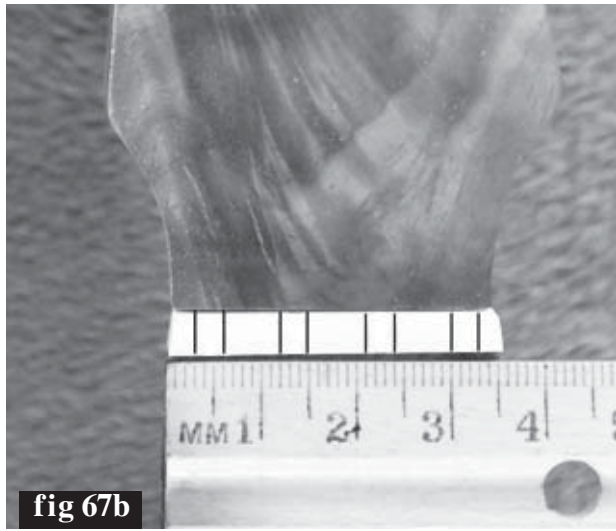
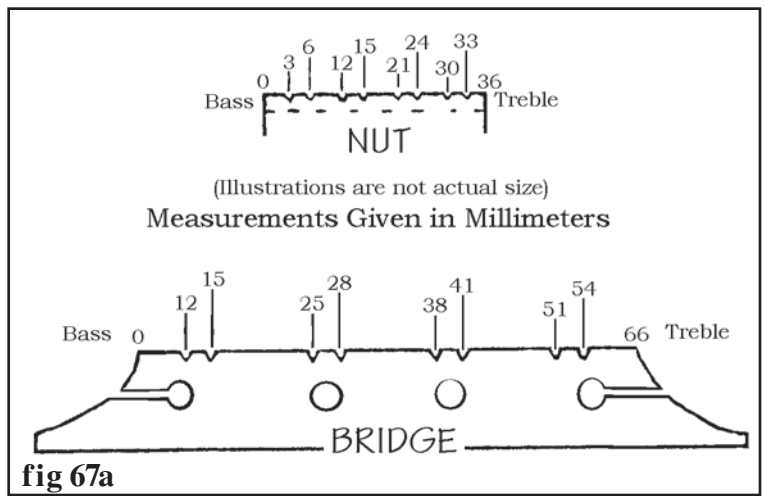

fig 67b
fig 67a
**67.** The Nut and Bridge need to be notched to hold the strings in the proper positions (fig 67a). It is best to use a metric ruler for marking these small measurements, as shown in fig 67b.